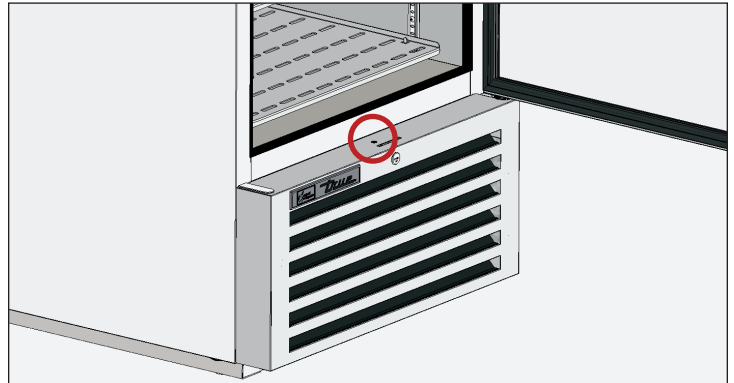

Fig. 1. Front louver grill screw location.
2. Remove the front louver grill. See fig. 1.